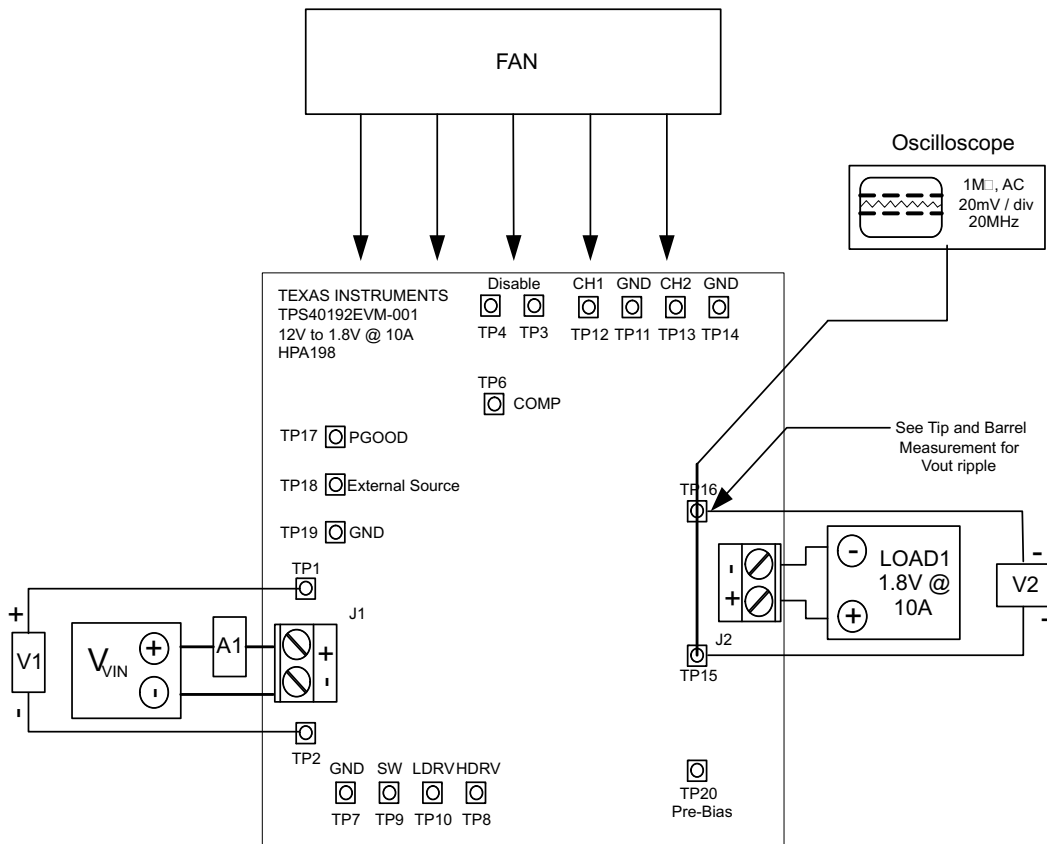

Figure 1. TPS40192EVM-001 Recommended Test Setup
The input voltage source ( $V_{IN}$ ) should be a 0- to 15-V variable DC source capable of 5 Adc. Connect  $V_{IN}$  to J1 as shown in Figure 1.
Shown in Figure 1 is the basic test setup recommended to evaluate the TPS40192EVM-001. Note that although the return for J1 and J2 are the same, the connections should remain separate as shown in Figure 1.
2. Prior to connecting the DC input source,  $V_{IN}$ , it is advisable to limit the source current from  $V_{IN}$  to 5 A maximum. Ensure that  $V_{IN}$  is initially set to 0 V and connected as shown in Figure 1.
3. Connect the ammeter A1 (0- to 5-A range) between  $V_{IN}$  and J1 as shown in Figure 1.
4. Connect voltmeter V1 to TP1 and TP2 as shown in Figure 1.
5. Connect LOAD1 to J2 as shown in Figure 1. Set LOAD1 to constant-current mode to sink 0 Adc before  $V_{IN}$  is applied.
6. Connect voltmeter, V2 across TP15 and TP16 as shown in Figure 1.
7. Place fan as shown in Figure 1 and turn on, ensuring that air is flowing across the EVM.